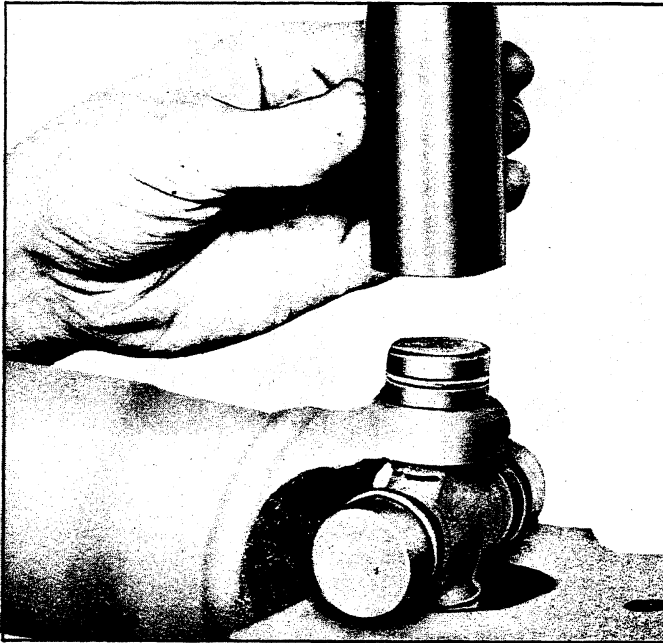

Fig. 109—Bearing Partially Pressed from Propeller Shaft
- c. Apply force on yoke around bearing until nylon retainer breaks. Continue to apply force until the downward movement of the yoke forces the bearing as far as possible from the yoke (fig. 109).